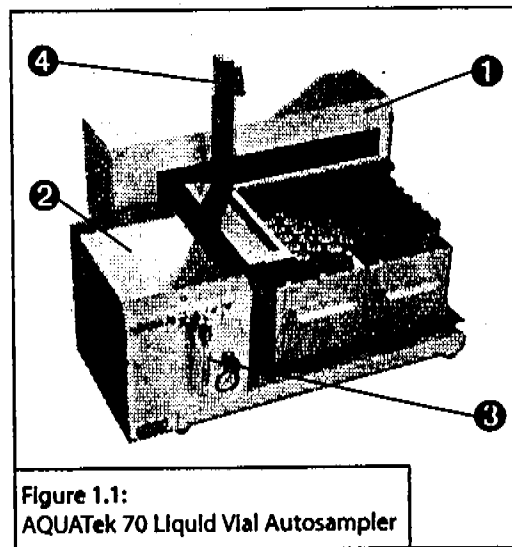

Figure 1.1:
AQUATEk 70 processes water and wastewater samples of all types—including particulate-laden samples. The autosampler (①, Figure 1.1) automatically removes a measured amount of sample from each vial and the sample module (②) adds a standard solution (③) automatically to the sample and then transfers it to the concentrator.